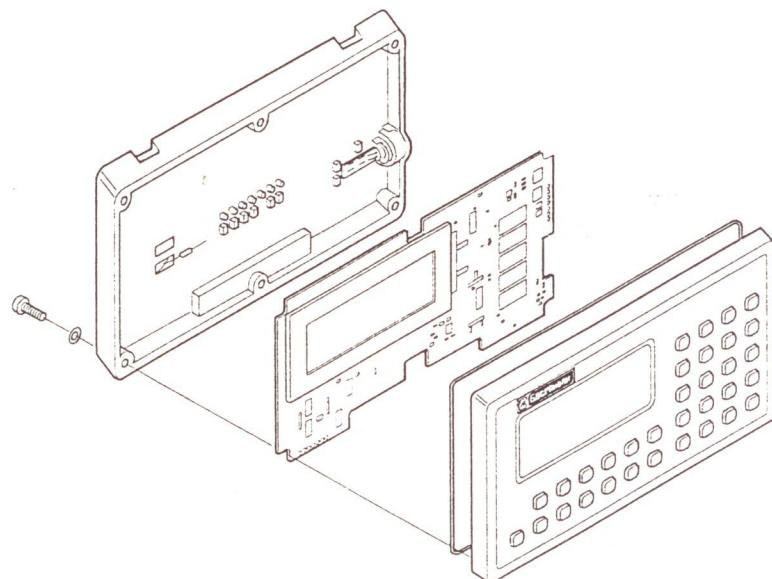

Fig. 1, opening of control unit.
1. Open the control unit (*Fig. 1*).